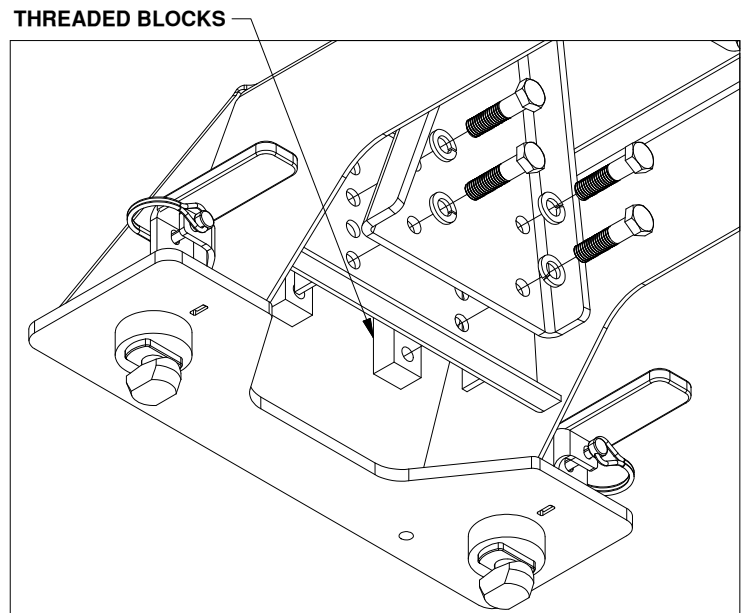

Figure A2: Passenger pivot arm mounting location.
2. **Secure arms.** Locate both pivot arms, the four threaded blocks, eight 1/2" cap screws, and eight 1/2" split lock washers. Place the lock washers over the cap screws. Align the flat side of the pivot arm flat against the bolt plate and install four 1/2" cap screws through the holes on the arm, holding the arm in place, as shown in Figure A2. Pass the threaded blocks under the base and align the block with each set of screws and start each screw, as shown in Figure A2. Note that the sides of the block have threaded holes on one side and smooth bored holes on the other side. When installing the threaded blocks it is critical that the side with the smooth holes is flat against the bolt plate when installed. After all the screws are started through the arms, torque each bolt to 110 ft-lbs.